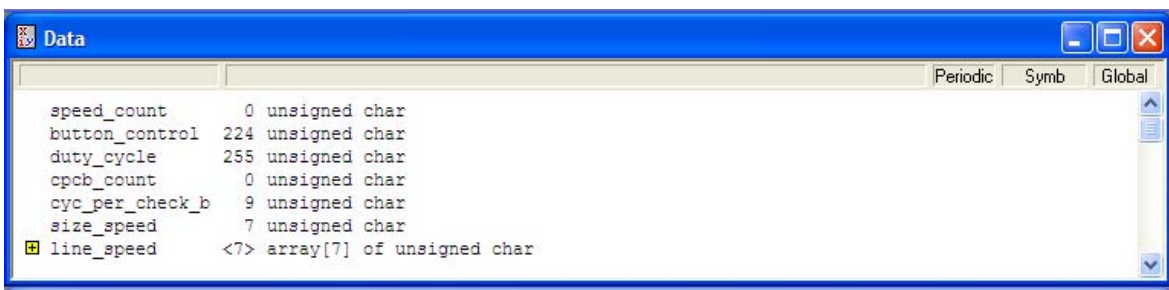

Figure 10. True Time Simulator Data Window
7. On the windows for data variables find the duty cycle. See Figure 10.